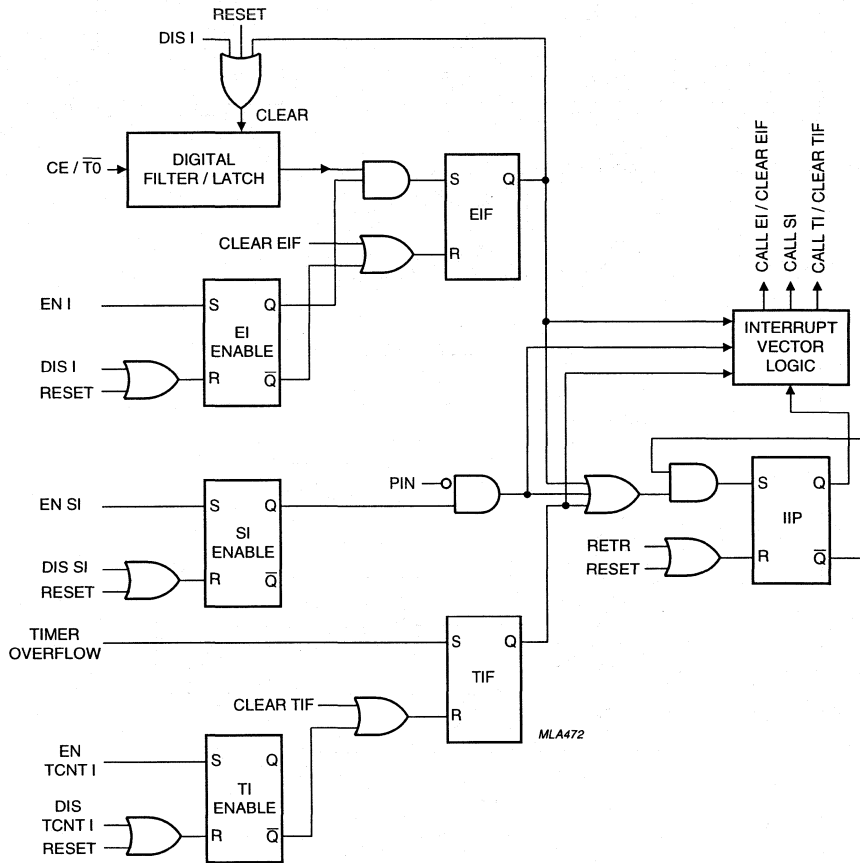

Fig.7 Simplified interrupt logic schematic (the R input overrules the S input for all flags).
An interrupt request is only sensed if the corresponding enable flag is set (see Fig.7). When the request is honoured, the contents of the Program Counter and bits 4, 6 and 7 of the Program Status Word are saved on the Program Counter stack. The Program Counter is loaded with the appropriate interrupt vector, thereby indicating the beginning of the interrupt routine. Since the Accumulator is not automatically saved, it must be saved and restored by user software. The interrupt routine must be terminated by the RETR (return and restore) instruction. At least one instruction of the main program will then be executed before another interrupt routine is entered.
- Subroutines and nested subroutines called from the interrupt routine must all end with RET since RETR clears the Interrupt In Progress flag (IIP), as a side-effect (see Figs 7 and 8). Further pending interrupts would then interfere with the interrupt routine in progress.
A LOW-to-HIGH transition on the $CE/\overline{T0}$ pin is latched in the digital filter/latch if the HIGH state exceeds 7 clock periods after a LOW state of more than 4 clock periods. If the external interrupt is enabled the External Interrupt Flag (EIF) is also asserted, thus constituting a valid external interrupt request. As soon as the IIP is clear, indicating that no interrupt routine is in progress, the external interrupt is invoked by a forced CALL to location 3. The EIF is simultaneously cleared (see Figs 7 and 8). The interrupt routine may acknowledge the interrupt via port lines. Execution of a DIS I (disable external interrupt) instruction cancels a stored interrupt request by clearing both the digital filter/latch and the EIF.
If the timer/event counter interrupt is enabled, a timer/event counter 1 overflow sets the Timer Interrupt Flag (TIF). As soon as IIP is clear, meaning that no interrupt routine is in progress, the timer/event counter interrupt routine is invoked by a forced CALL to program memory location 7. The TIF is simultaneously cleared (see Figs 7 and 8). Execution of a DIS TCNTI (disable timer/event counter interrupt) instruction cancels a stored interrupt request by clearing TIF.